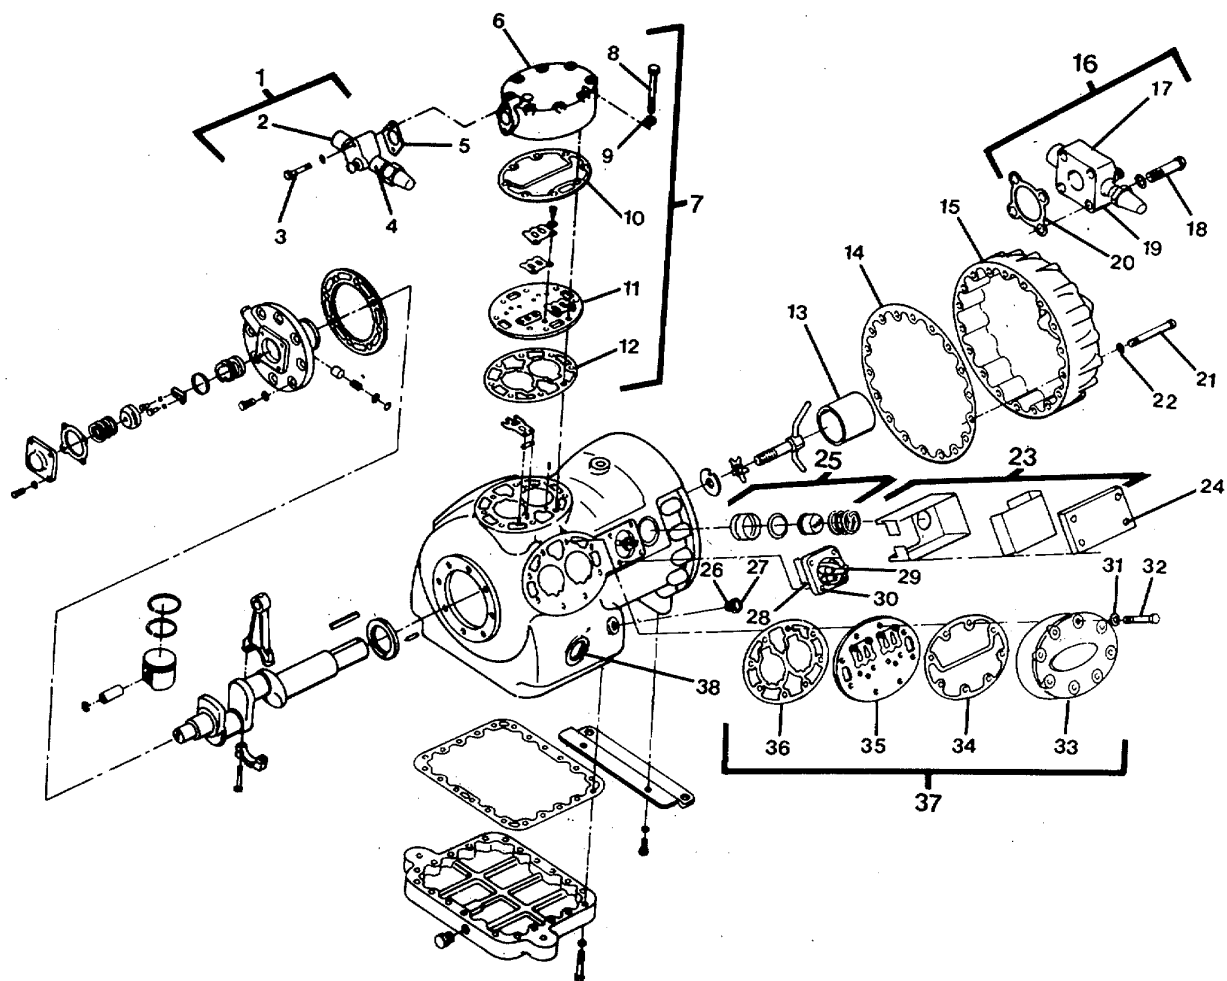

Figure 4-19 . Compressor Unit (A/C-2) .
- (1) When possible, pump down the system to remove refrigerant charge from compressor (Item 10, Table 4-1).
- (2) When defective components make it impossible to pump down the system, remove refrigerant charge using the method given in (paragraph 4-10).
- (3) When replacing compressor suction and/or discharge service valve(s) (16 and 1, FIGURE 4-19) the valves must also be isolated from the rest of the system. Evacuate and recharge with R-22 refrigerant when discharge service valve is being replaced (paragraph 4-10).
b. Replace thermostat (25, FIGURE 4-19) and/or terminal gasket (28).
- (1) Remove four screws (24) and remove thermostat cover and bracket (23).
- (2) Tag and disconnect electrical wiring to thermostat (25) and compressor terminal (29).
- (3) Remove thermostat (25) from compressor. (4) Remove four screws (30) and remove terminal (29) and gasket (28). Discard gasket.
- (4) Remove four screws (30) and remove terminal (29) and gasket (28). Discard gasket.
- (5) Install new thermostat (25).
- (6) Use a new gasket (28) and install terminal (29) with four screws (30). Torque capscrews to 18 ft-lb.
c. Replace suction (service) valve package (16) and/or discharge (service) valve package (1).